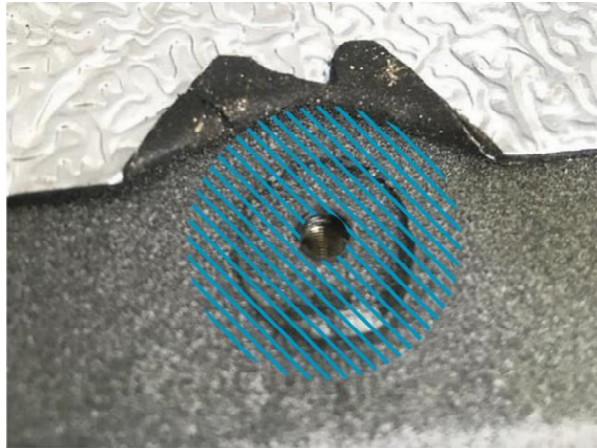

FIG. 11
15. **Note:** Ensure that no screw thread locker is present on the surface marked in blue (FIG. 11). Another cleaning may be necessary.